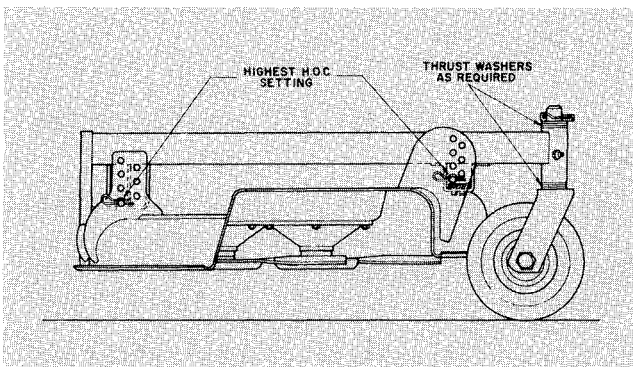

Figure 14
1. Check to make sure front height-of-cut pins are resting properly on frame cushions (Fig. 14).
2. Raise height-of-cut to the 3½" (89 mm) or 4 in. (102 mm) position (Fig. 14): refer to Adjusting Height-Of-Cut, page 6.
- A. Cutting units usually operated at 1 to 2 in. (25 to 51 mm) height-of-cut should have the low side of the cutting unit raised. Remove the klip ring securing castor wheel on low end (Fig. 14) and remove castor assembly.
- B. Transfer one thrust washer from top side of castor shaft to lower side, install castor assembly and compare blade height of all blades; refer to items 3 through 7. Continue adding thrust washers if height still does not meet requirements.
- C. If cutting unit is operated at 2 to 4 in. (51 to 102 mm) height-of-cut, lower the high side of cutting unit. Remove lynch pin of castor at high end of unit and remove castor assembly (Fig. 14).
- D. Transfer one thrust washer from lower side of castor shaft to top side, install assembly and compare blade height of all blades; refer to items 3 through 7. Repeat procedure if height still does not meet requirements.